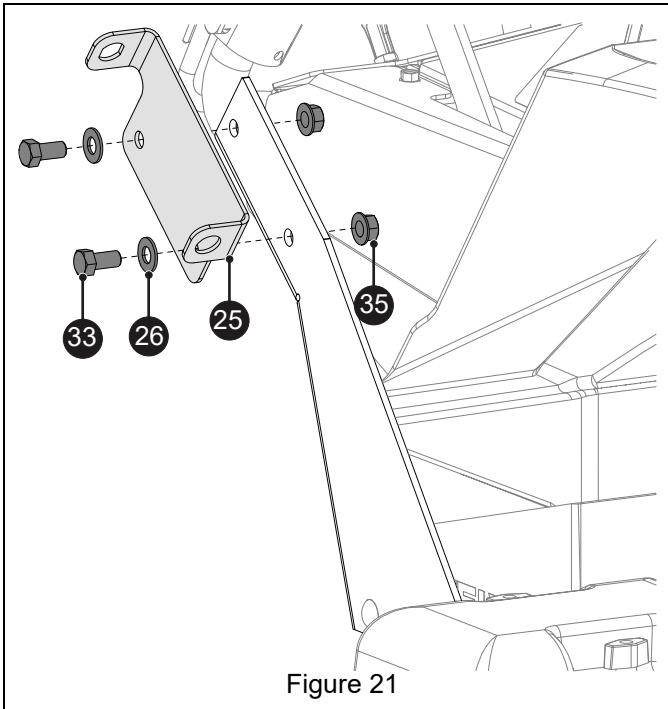

Figure 21
28. Mount the cable bracket (item 25) to the upper bracket with two 3/8" x 3/4" hex bolts (item 33), two flat steel washers (item 26) and two 3/8" locking center flange nuts (item 35). Ensure that tab hole with flat edges faces up. See Figure 21.